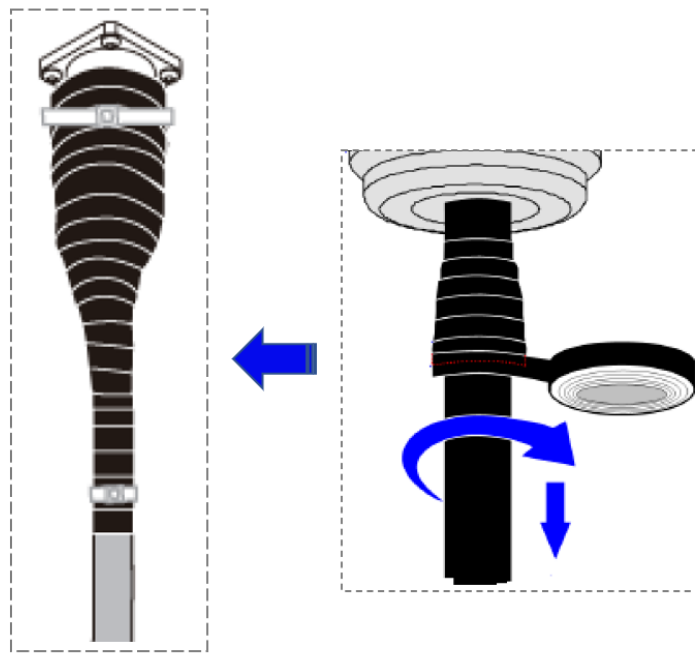

Figure 4-23 Waterproofing a connector of RF jumper
Step 3: Use the waterproof tape and PVC insulation tape to waterproof both ends of the connector refer to the Figure 4-23.